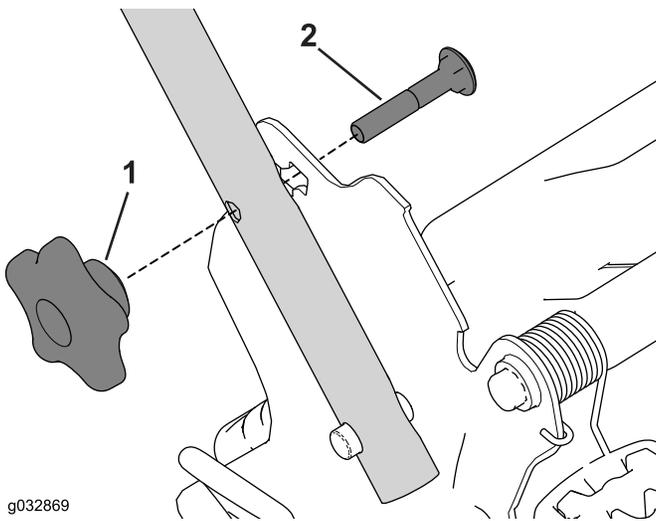

**Figure 5**
3. Unfold the handle to the operating position by rotating it rearward (Figure 5).